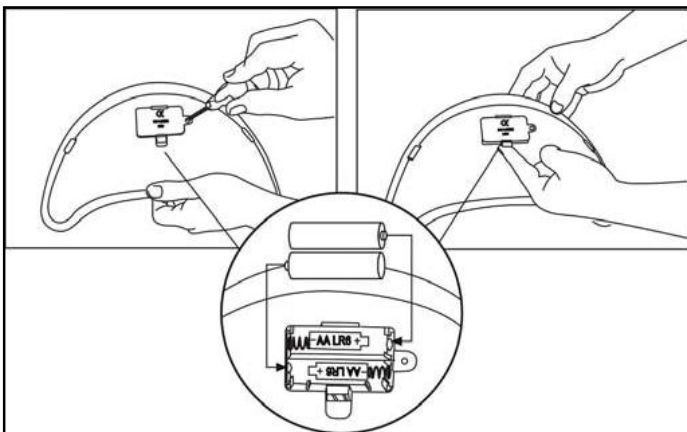

Figure 10
- Use a Philips head screwdriver to unfasten battery cover, insert batteries and replace cover as per **Figure 10**.